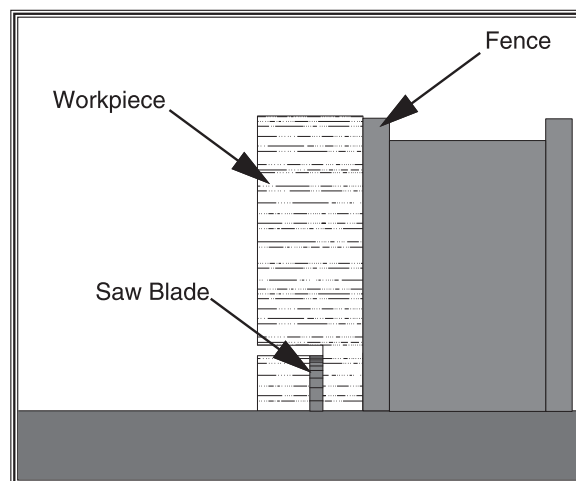

Figure 32. Second cut to create a rabbet.
- Stand the workpiece on edge as shown in **Figure 32**.